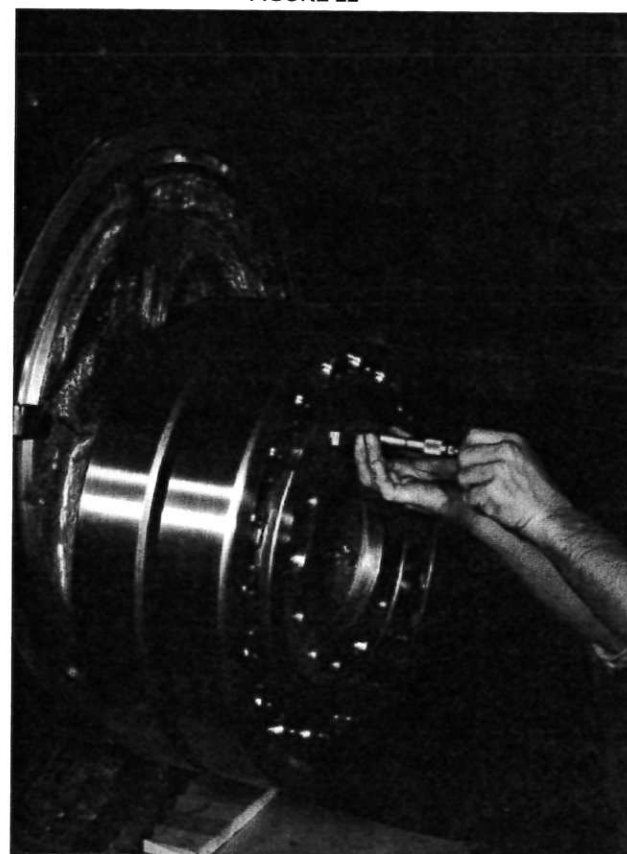

FIGURE 24
6. Check and record bearing overhang with a depth micrometer or with straight edge and feeler blades. This can be done with eccentric out of the frame as shown in FIGURE 24, page 23.